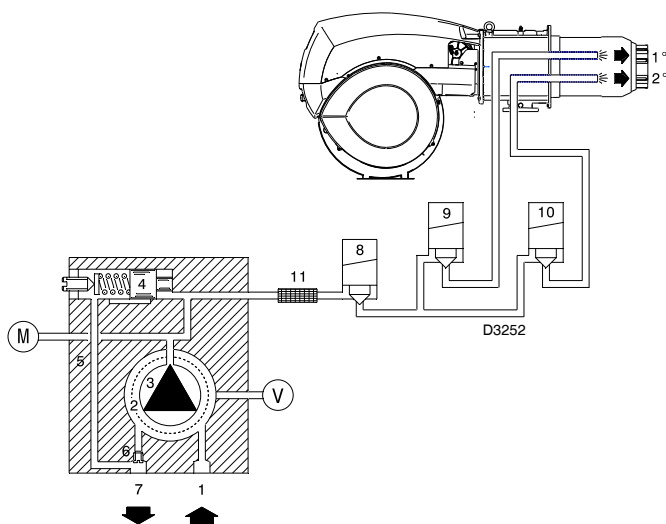

Fig. 26
The pump 3)(Fig.26) sucks the fuel from the tank through the piping 1) and the filter 2) and pumps it under pressure to delivery.
- When the temperature or the pressure increases until the control device TR opens, solenoid valve 10) (Fig. 26) closes, and the burner passes from the 2nd to the 1st stage of operation.